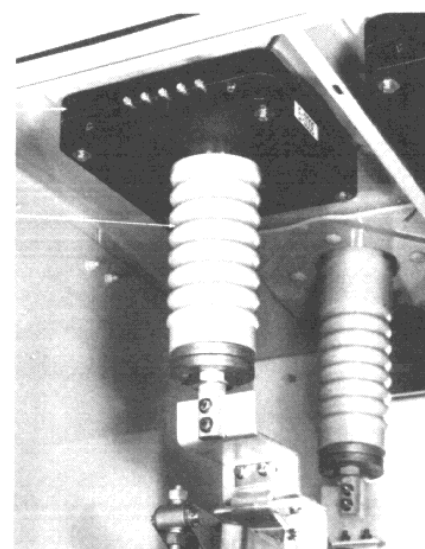
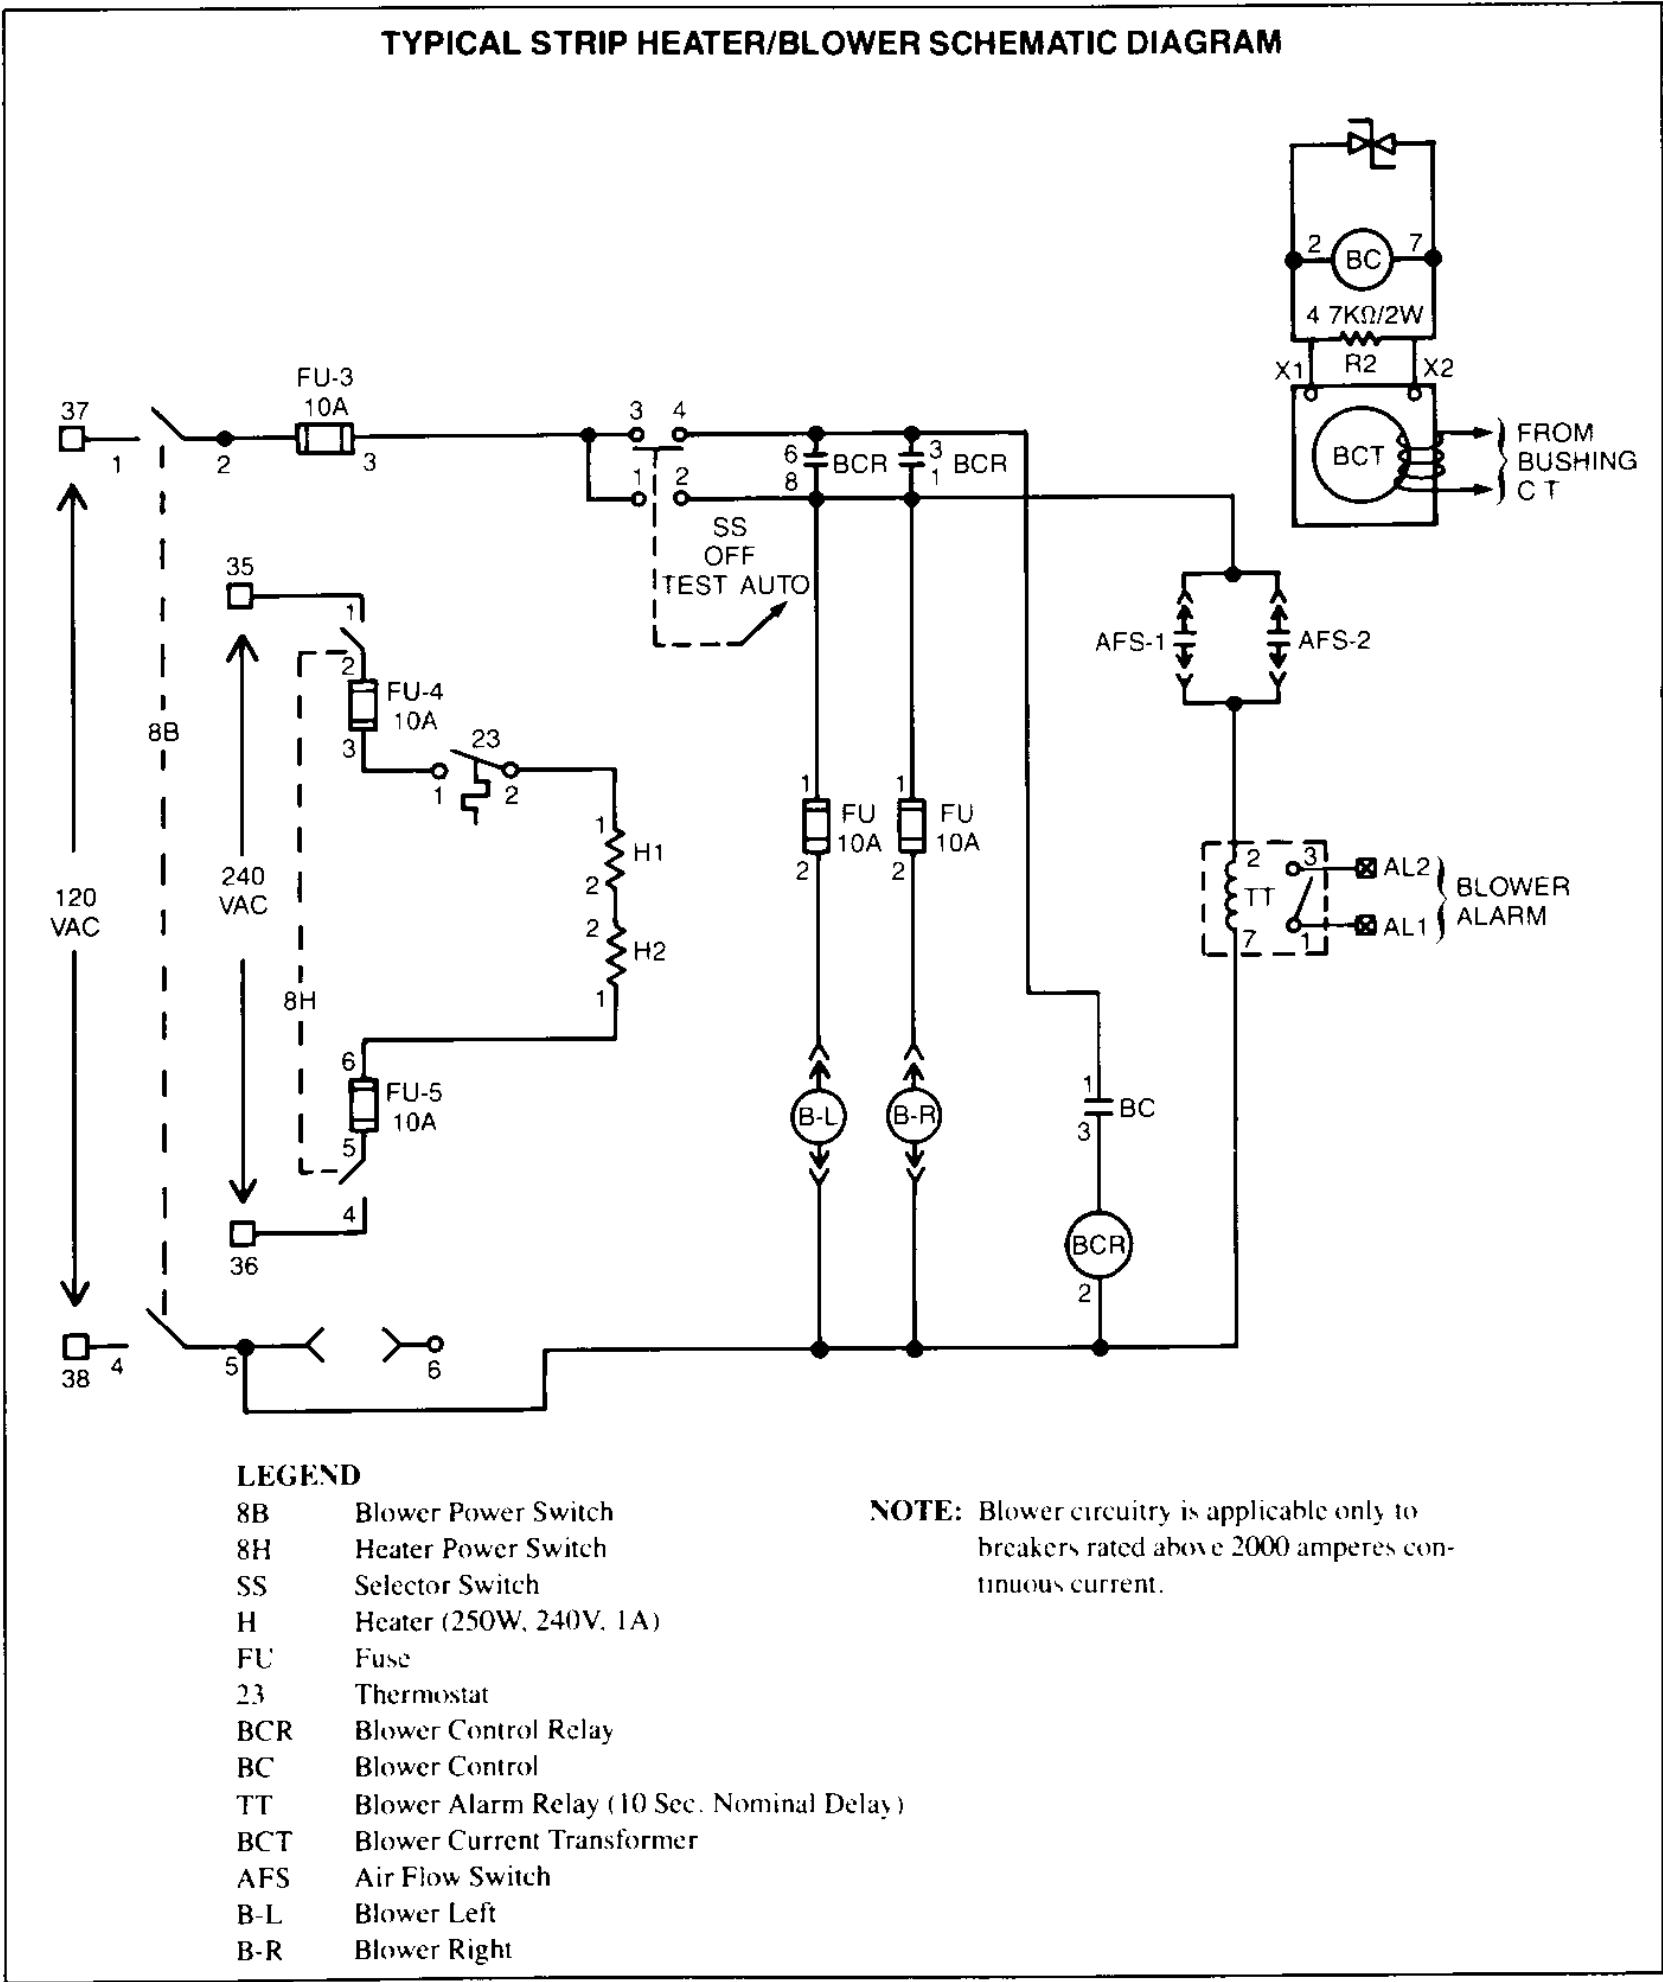

Figure 7
Figure 8
4. Discharge to ground the feed-thru bushing conductors (Figure 7, 1) and vacuum interrupter midband ring before handling. These areas can retain a static charge after a hi-pot test.
In normal configurations, two strip heaters (H-1 and H-2, Figure 8) are mounted at the lower rear of the operating mechanism. Their function is to prevent moisture condensation within the circuit breaker housing.
When opened, the heater power switch (8H) (Figure 8) completely disconnects the control power from the heater circuitry. Both poles of this switch are fused.
contacts within the thermostat (Figure 8) connected between terminals 1 and 2 apply power to the strip heaters H-1 and H-2.
The primary winding of the blower current transformer (BCT) (Figure 8) is provided by the X1 lead of one of the bushing current transformers (Figure 7, 4).
The function of the blower control (Figure 8) is to sense precisely the output of the blower current transformer (BCT), and at an output voltage representing a primary current level above 2000 amperes, to energize the blower control relay (BCR) by closing a pair of normally open contacts in series with the blower control relay (Figure 8).
When energized by the closing of the normally open contacts of the blower control (BC), the blower control relay (Figure 8) applies control power to the blowers and the blower alarm circuit (See section 3.6.3) through the closing of two sets of parallel connected, normally open contacts. Additionally, one set of normally closed contacts is employed to disable the heater circuit whenever the blowers are energized.
Placing the selector switch (SS) in the "Test" position, overrides the automatic control circuitry described in the preceding sections, and directly connects the control power to the blowers and alarm circuitry (See section 3.6.3). The blowers and alarm circuitry will remain energized for as long as the selector switch (Figure 8) remains in the "Test" position.
The blower alarm circuitry (Figure 8) consists of two air flow switches (AFS-1 and AFS-2) — one located in the air flow path of each blower — and a delay-on device (TT).
When initially energized, the blowers require a few seconds to develop enough air flow to actuate their respective air flow switches. To eliminate the possibility of a false alarm during this initialization period a time delay device (TT) is employed to disable the blower alarm circuitry momentarily until the blowers have been provided enough time to build up their air flow. The blower alarm delay (TT) (Fig. 8) provides a nominal delay-on period of 10 seconds.
Each air flow switch contains a set of form C contacts. As shown in Figure 8, the normally closed segment of these contacts is employed in the blower alarm circuitry.
User supplied power from input line AL2 on the blower alarm terminal block (Figure 8) will then be connected to output AL1 of the blower alarm terminal block.